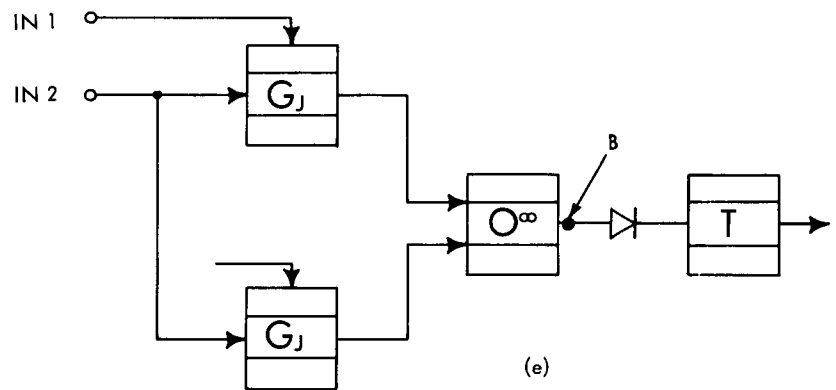

FIGURE A19. DIODE GATE - G_J
2.08.01 Circuit Description (Figure A19)